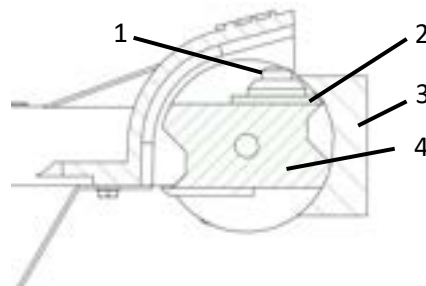

Fig. 13 Knife adjustment
- > Loosen the knife screw (1 - Fig.13).
- > Push the knife (2 - Fig.13) all the way back.
- > Place the knife gauge (3 - Fig.13) on the cylinder (4 - Fig.13) so that it rests on the two bearing surfaces of the cylinder at the top and bottom.